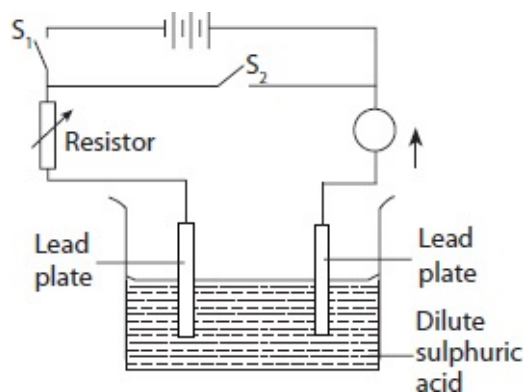

Fig. 10.23: Charging and discharging secondary, cells
- Set up the apparatus as shown in figure 10.23.